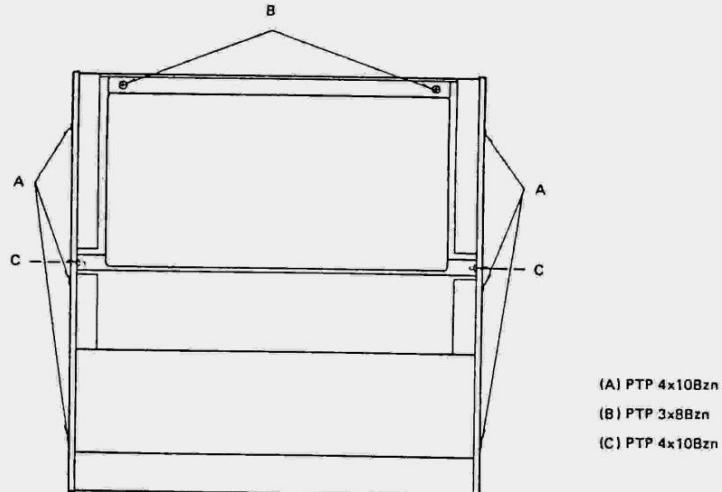
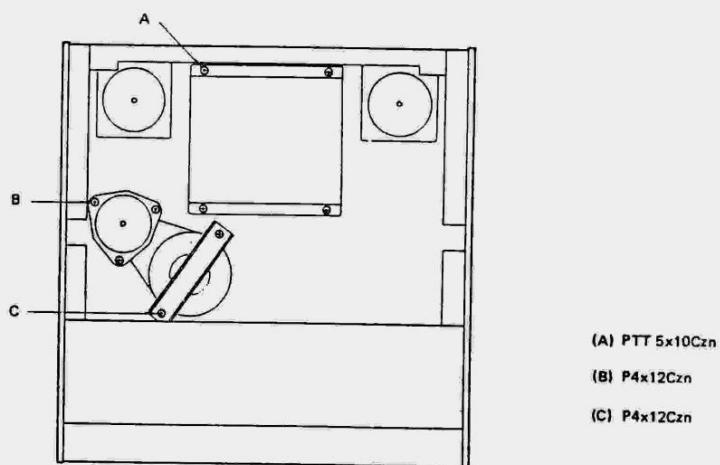
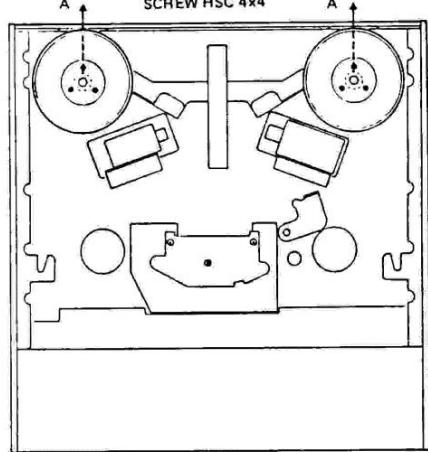

Fig. 6.5
Fig. 6.6
Fig. 6.7
6.5 SYSTEM CONTROL PCB ASSEMBLY (Fig. 6.5)
- * After removing the rear cover, removing screw (B) will allow the System Control PCB to be swung down pivoted on the lower side by two screw (C). If the System Control PCB must be removed from the B-16, the side boards must be removed by unscrewing (A), then removing screw (C).
6.6 POWER TRANSFORMER (Fig. 6.6)
- * Remove the four screw (A).
6.7 CAPSTAN MOTOR ASSEMBLY (Fig. 6.6)
- * Remove the three (B) screws and the capstan motor assembly can be taken out.
6.8 REPLACING THE CAPSTAN BELT (Fig. 6.6)
- * Remove the two (C) screws and take off the bracket to replace the capstan belt.
6.9 REEL MOTOR ASSEMBLY (Figs. 6.7 and 6.8)
- * Loosen the two (A) screws at left and right to remove the reel drums. Then, removing three each of screw (B), on the left and right side, and the assembly can be lifted out.
6.10 CAPSTAN ASSEMBLY (Figs. 6.6 and 6.8)
- * Remove the bracket by removing two screw (C) shown in Fig. 6.6.